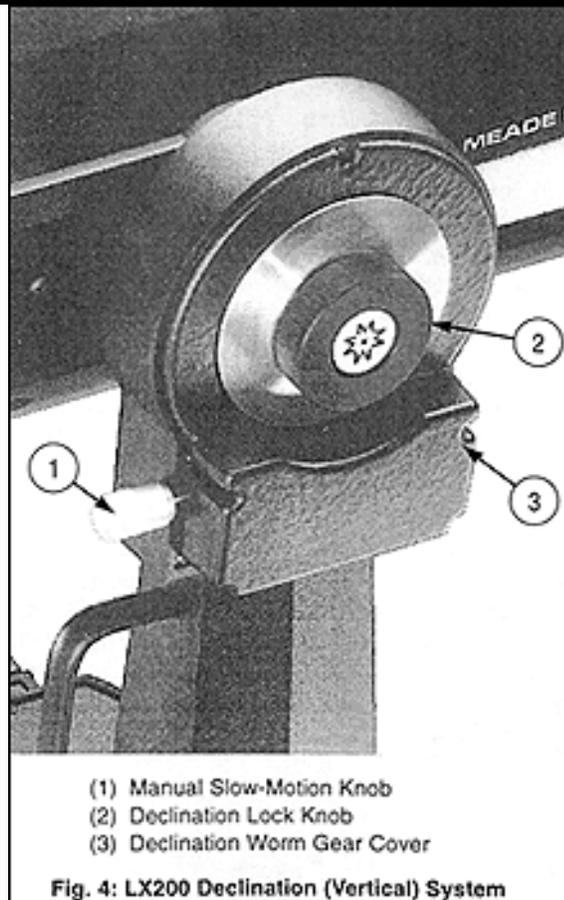

Fig. 4: LX200 Declination (Vertical) System
POLAR allows you to use the LX200 mounted on its' optional Equatorial Wedge (see Appendix A) for long exposure astrophotography as well as visual work. With the LX200 powered up, the POLAR file option selected, the Field Tripod leveled, the telescope should be adjusted so that the Declination Setting Circle (3, Fig. 3) is set to 90 degrees (see Fig. 4), and to the 00 hour angle (HA) in Right Ascension (in this position, the Viewfinder (Fig. 3) is up-side down, the R.A. Pointer (9, Fig. 3), the 00 line of the R.A. Setting Circle (10, Fig. 3), and the Hour Angle Pointer (16, Fig. 3) match up), you are ready to start. (If you do not start at the 00 H.A. position, the telescope it will point to the ground instead of the sky, when the Keypad display chooses its' second star.) Press the ENTER key and the LX200 will determine and slew to the precise off-set of the pole star in Declination and Right Ascension.